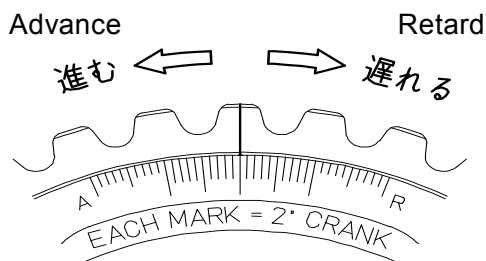

Fig.8 Scale of the Outer Pulley
- Loosen the angle adjusting bolt, turn the outer pulley toward A (Advance); the valve timing is advanced. Turn it toward R (Retard); the timing is retarded. (See Fig.8)